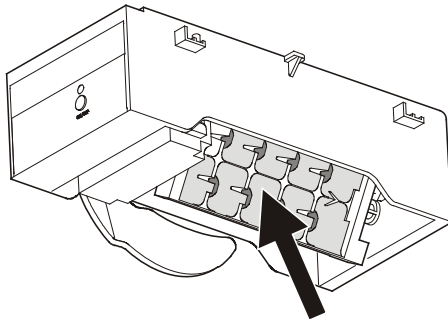

**Figure 23**
- Press the “ON/OFF” button so the control lamp comes on (**Figure 23**).
- Press the button on the Ice Maker housing (**Figure 23**) for approx. 3 seconds. The LED above the button starts blinking.